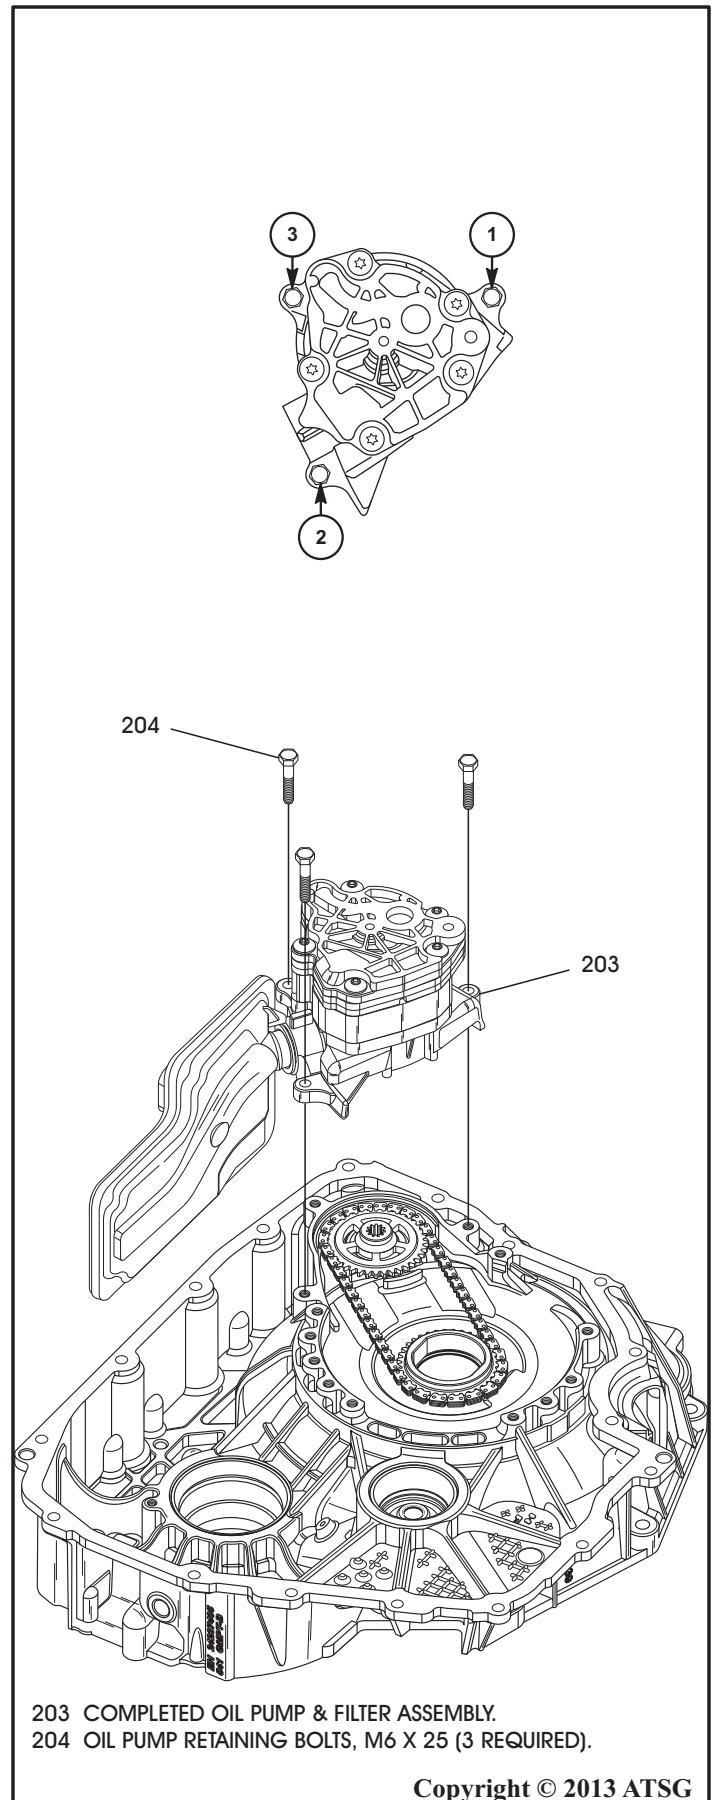

Figure 121
15. Install the oil pump and filter as an assembly, as shown in Figure 121.